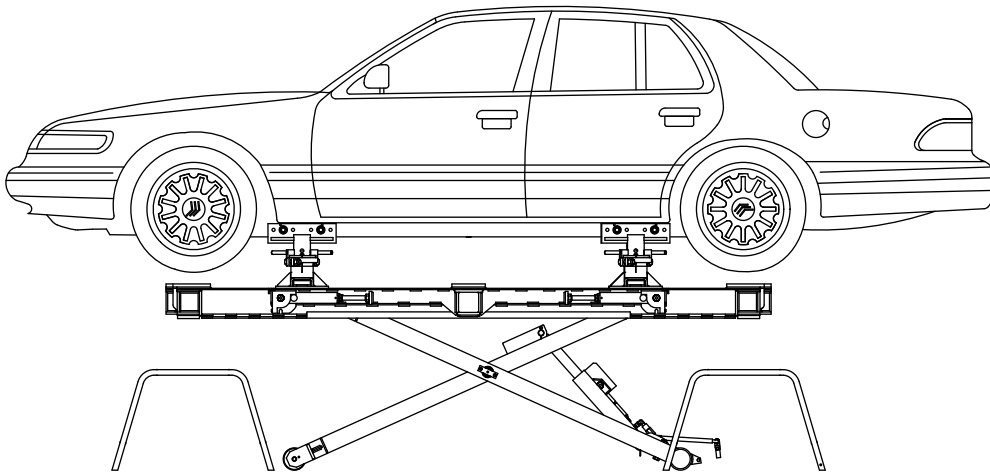

Figure 43
5. Retract the legs to the horizontal or storage position by pulling the spring loaded leg release pin and rotating the legs up until the legs are locked into the horizontal position (see Figure 43).